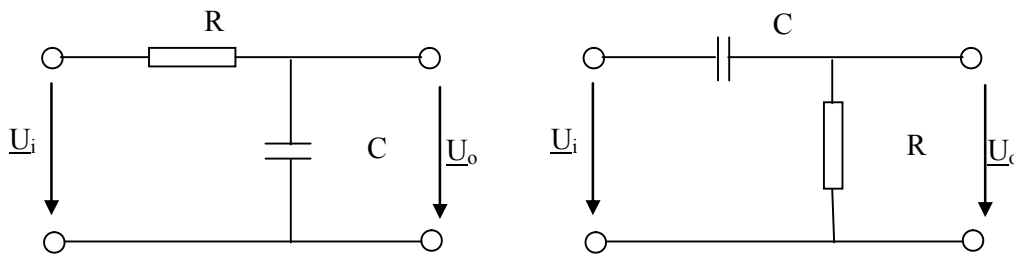

Fig.2: a) LPF –integrator circuit
Circuits that are studied in this laboratory are given in Figure 2:
2. Deduce the expression of the transfer function, its magnitude and argument for the circuits in Figure 2.
1. Calculate the magnitude of the transfer function (frequency response) for circuits in Figure 2, at frequencies  $f_t/10$ ,  $f_t/4$ ,  $f_t$ ,  $2f_t$ ,  $4f_t$ ,  $10f_t$ .